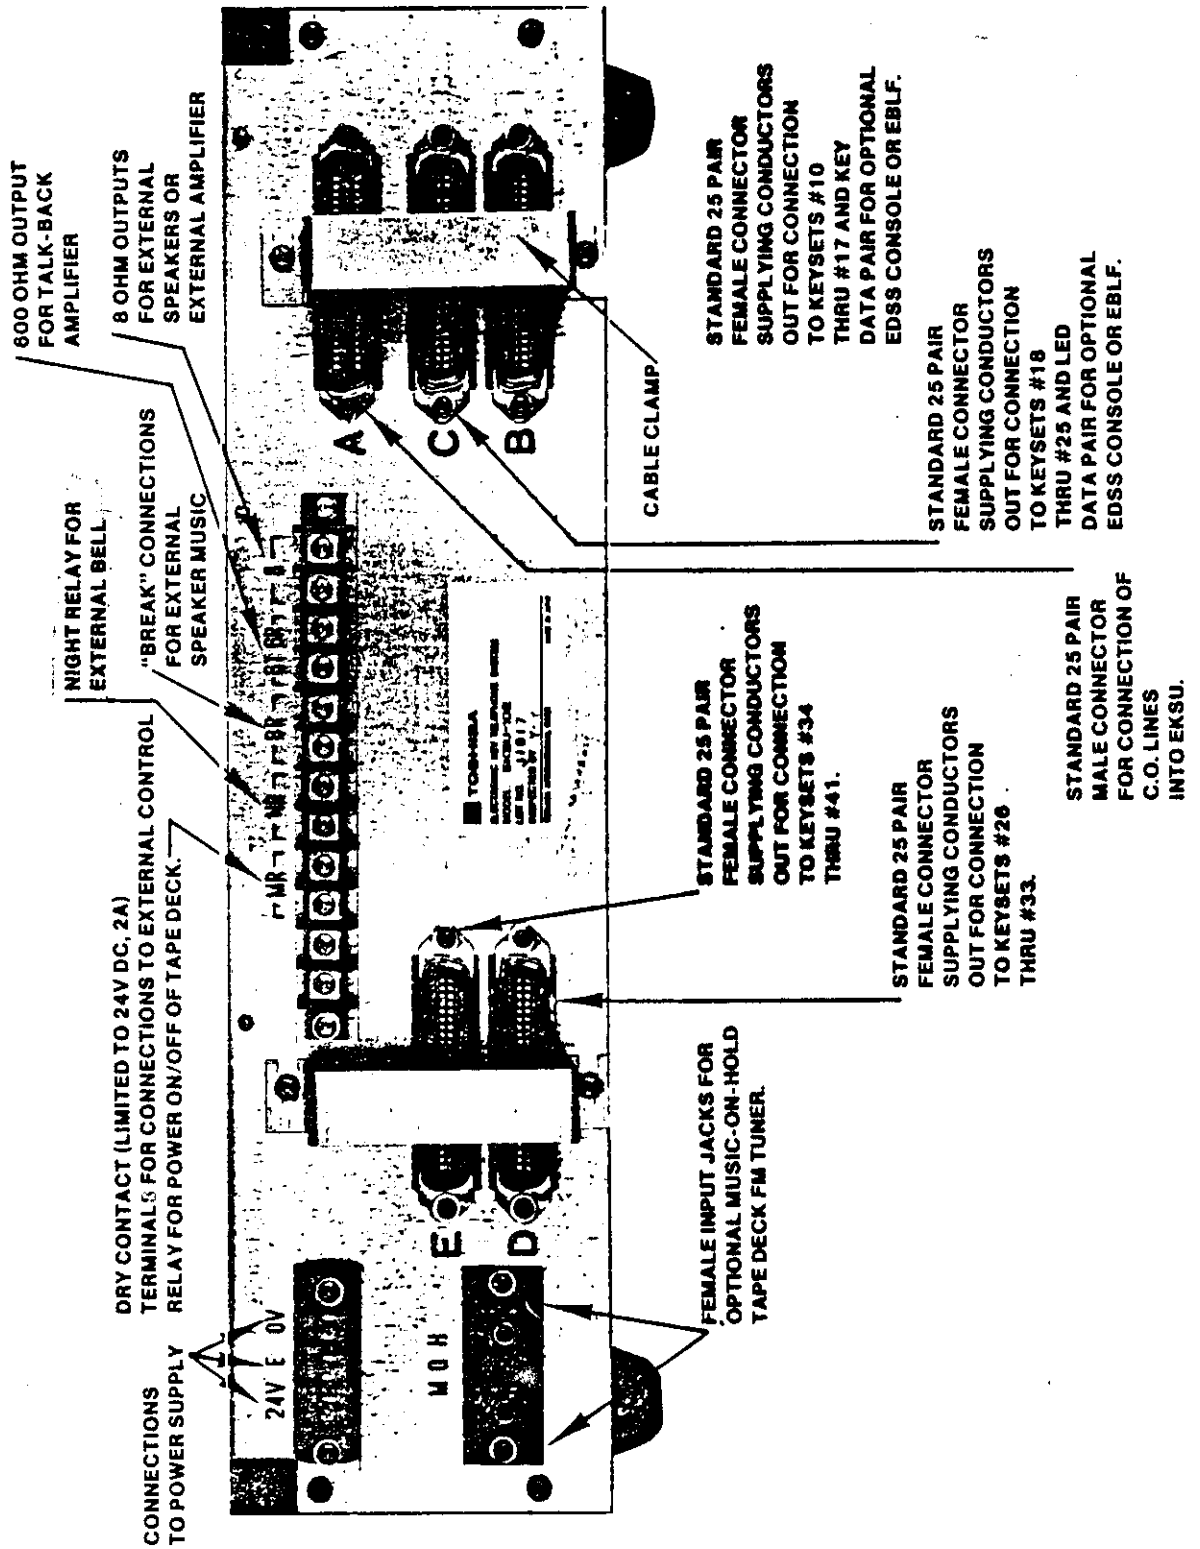

FIGURE 3—REAR EKSU CONNECTION PANEL
7.7.2 If a tape deck is to be used the optional MOH relay must be obtained and plugged into position "K1" on the EPRU board (see Figure 22). The relay will then operate when a call is placed on hold, providing a made contact between the two terminals labeled MR (see Figure 3). This circuit may then be used to control a customer supplied, externally mounted slave relay which can then be wired to control power on/off for the tape player. See Figure 23.
8.1.2 The optional BR relay must be obtained and installed in position K2 on the EGPU PCB (see Figure 28). A dry closure will now appear between terminals "BR" at the lower rear of the primary EKSU (see Figure 3) when external paging is activated.
8.2.2 The optional MOH relay must be obtained and installed on the EPRU PCB in position K1 (refer to Figure 22). Closure will now appear between terminals "MR" at the rear of the EKSU (see Figures 3 and 23) when a call is placed on hold.